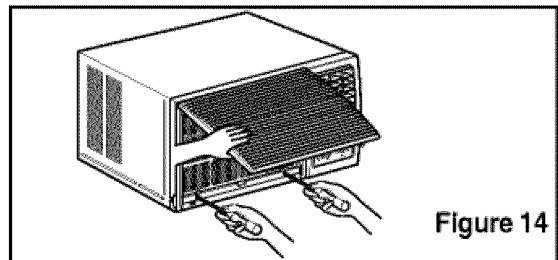

Figure 14
3. Lift the inlet grille and secure it with a type A screw through the front grille. (See Figure 14)